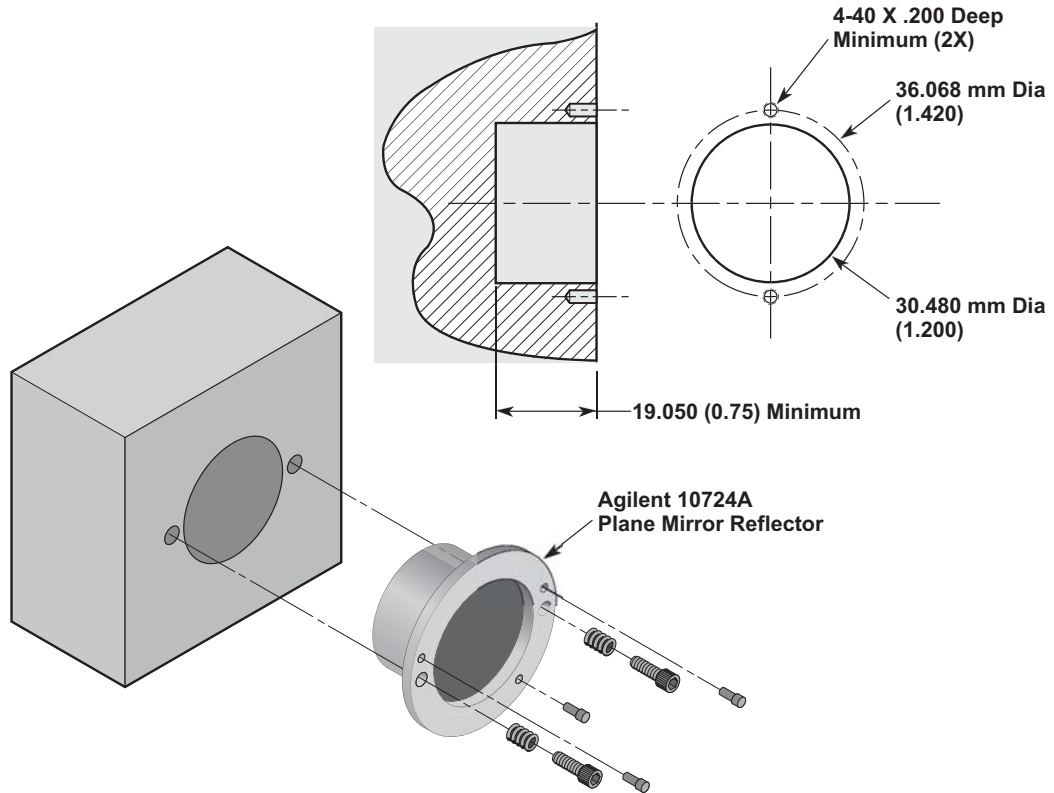

Figure 296 Agilent 10724A Plane Mirror Reflector — mounting requirements and installation
The Agilent 10724A is designed to be mounted into a hole or pocket on the stage (moving object). The mounting surface for the Agilent 10724A should be closely perpendicular to the axis of machine travel. Figure 296 shows the mounting hole details. Provision is made to lift the flange slightly off the mounting surface, thereby allowing pitch and yaw corrections to be made to align the Agilent 10724A exactly to the axis of machine travel.
- 2 Insert the labeled end (non-flanged end) of the Agilent 10724A into the mounting hole or pocket. Start the two #4-40 cap screws through the compression springs and the clearance holes in the flange and then into the mounting surface (See Figure 296).